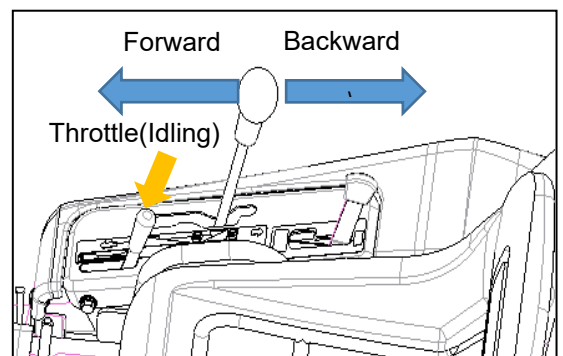

Figure 15
- **Tilt the change lever by half to FORWARD and BACKWARD for 10 seconds and then, return the change lever to neutral position.(Figure 15)**